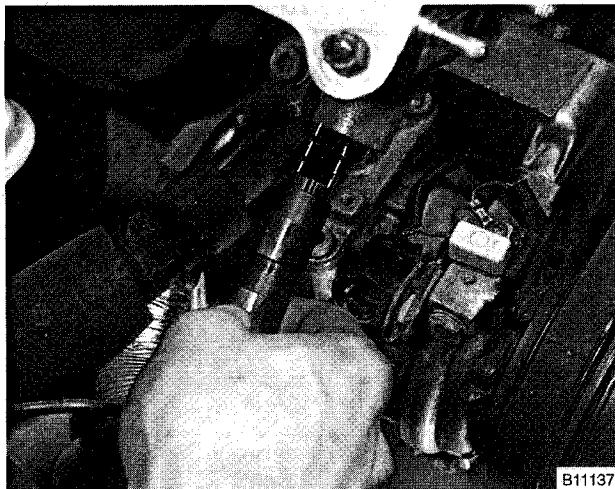

Fig. 46. Primary chain tensioner being installed. Piston cutout must engage chain rail.
21. Install primary chain tensioner so that cutout in tensioner piston engages chain rail. See Fig. 46. Using new seals, install and tighten access plugs in VANOS control unit.